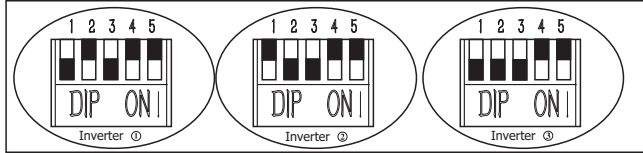

Figure 2
Step 2: On the bottom panel of inverter, there are 5 pins DIP switches, you can set it as follow Figure 2 .